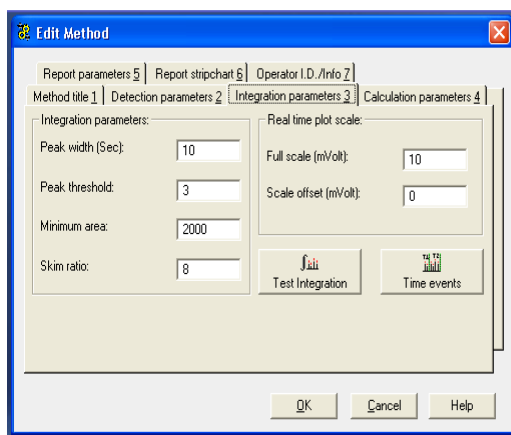

Figure 14. Edit Method Screen.
2. Select the **Integration parameters 3** tab and select **Test Integration** (Figure 14).